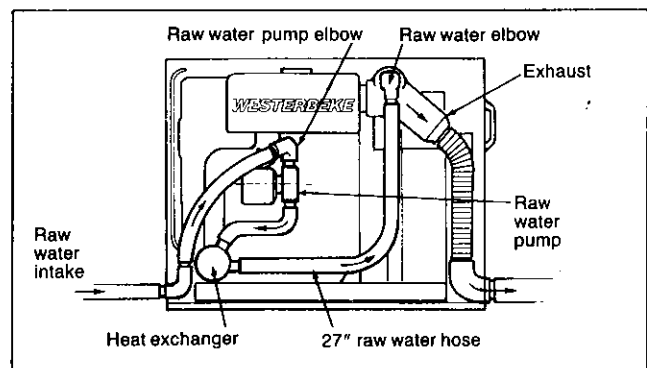

Figure 5. 8 BTD Gen Set
6. At this point, follow general instruction #6 in the Sound Guard brochure and place fuel, battery and power connections in the skirt, positioned convenient to the installation. Water and exhaust holes are already supplied as are fittings and hoses. Note that it is easier to remove the sound guard skirts to drill for the fuel, battery and power leads than to do this operation in-place. See Figure 5 for sea water piping.
The elbow at the top of the raw water pump must be turned (approx. 80°) to prevent the hose from rubbing against the side. The raw water elbow at the exhaust points straight down and the 27" raw water hose connects forward to the heat exchanger. See Figure 5.